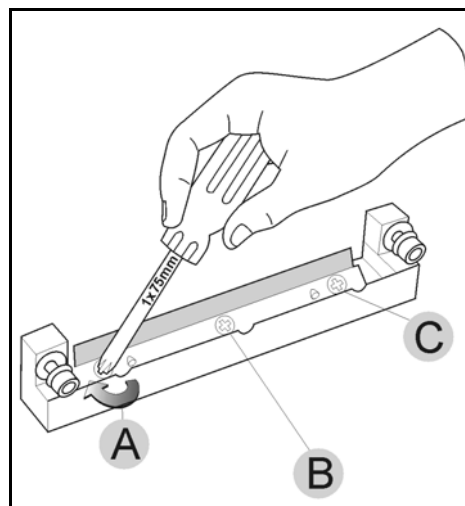

Figure 6-44: Tightening the roller scraper screws
- Tighten the screws in the order shown in figure 6-44.